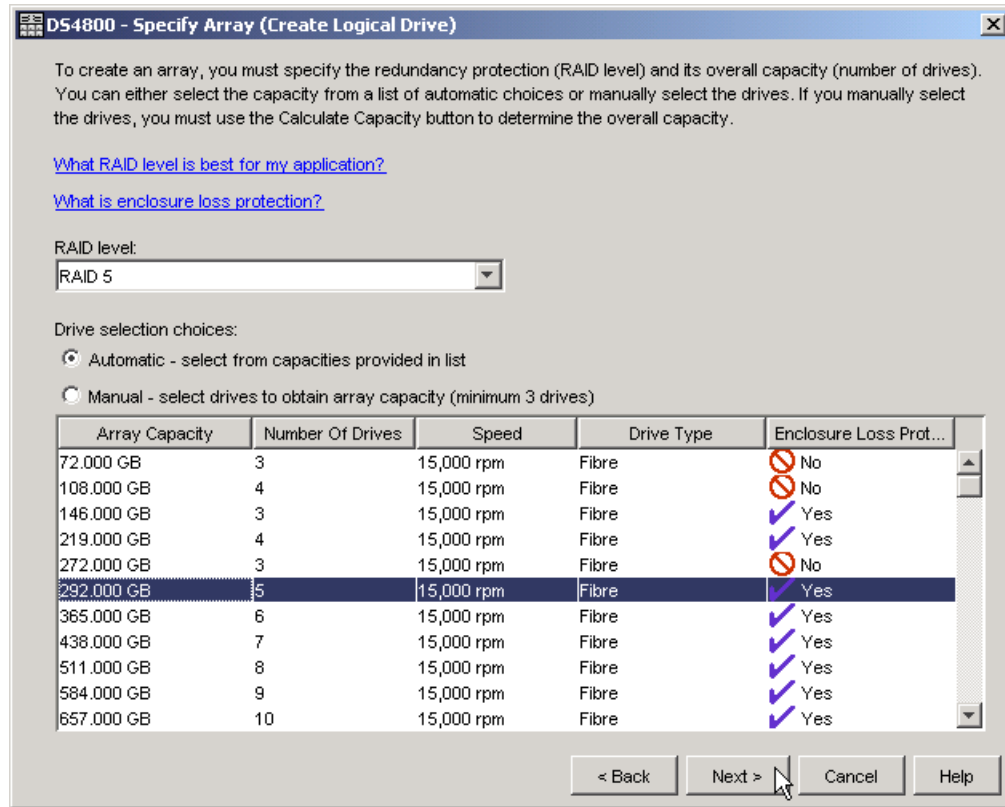

Figure 3-38 Enclosure loss protection with Automatic configuration
2. You have two choices for specifying the array details: automatic and manual. The default is the automatic method. In automatic mode, the RAID level is used to create a list of available array sizes. The Storage Manager software selects a combination of available drives which it believes will provide you with the optimal configuration (Figure 3-38).